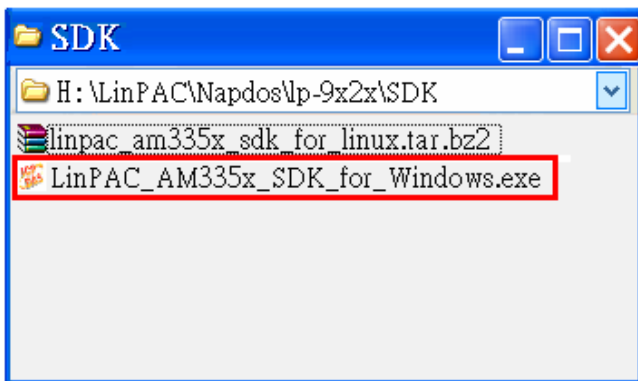
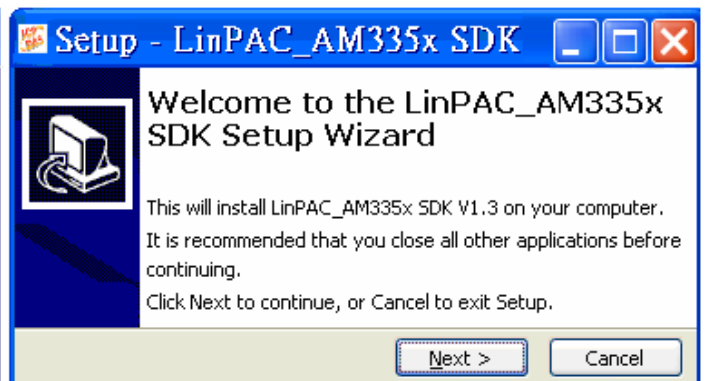

Fig. 2-7
Fig. 2-8
2. Open the \napdos\LP-9x21\SDK\ folder and double-click the icon for the “LinPAC AM335x SDK for Windows.exe” file, when the Setup Wizard is displayed, click the “Next>” button to continue, refer to Fig. 2-7 and Fig.2-8.